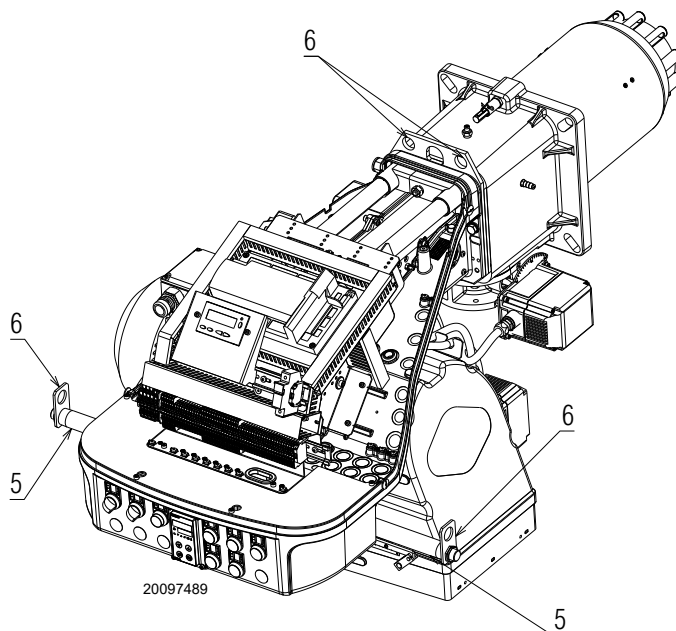
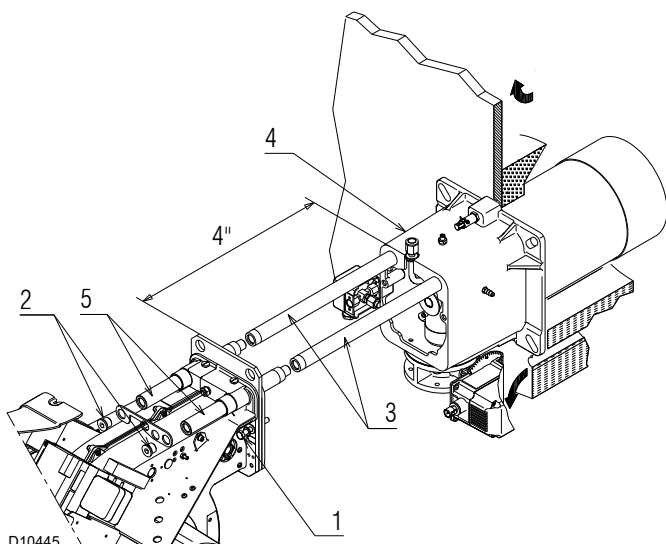

Fig. 18
Fig. 17
- push the burner on the sliding bars 3) at approximately 4" from the pipe coupling 4) - burner in the position shown in Fig. 17;
- insert the electrode cable, then slide the burner as far as the pipe coupling - burner in the position shown in Fig. 18;
- unscrew the 2 screws 2) from the extension 5) and reposition them as previously Fig. 18.
Key Fig. 17 and Fig. 18